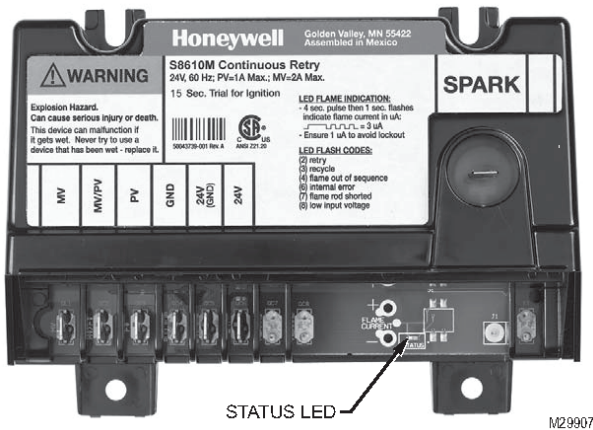

Figure 13: Location of LED
See Figure 13 for electronic ignition (EI). Electronic Ignition Modules with LED indicators. Table 2 cross-references the ignition module terminal designations to the ignition terminal numbers in the wiring ladder diagrams. Table 3 provides green LED status codes and recommended service action where applicable.. See Figure 13 for Location of LED. See Figure 16 for Troubleshooting Guide.